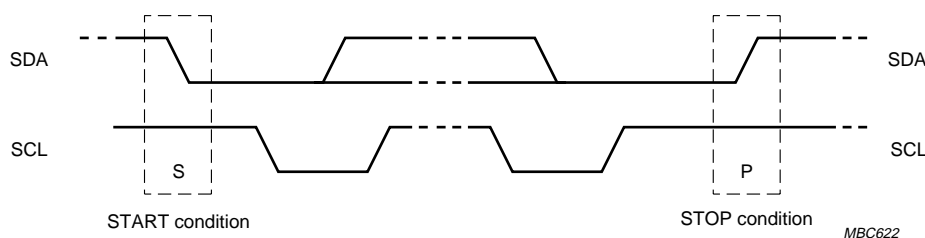

Fig.9 START and STOP conditions on the I2C-bus.
Both data and clock lines will remain HIGH when the bus is not busy. A HIGH-to-LOW transition of the data line, while the clock is HIGH, is defined as a start condition (S); see Fig.9. A LOW-to-HIGH transition of the data line while the clock is HIGH is defined as a stop condition (P).